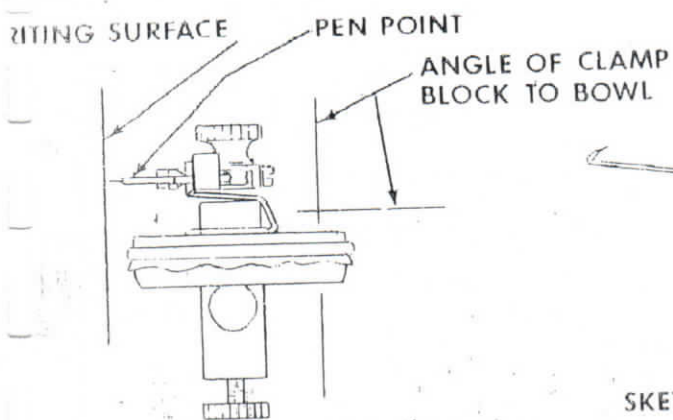

FIG. 3
Mount the tambour to the kymograph's support rod (7011-000) using a double right angle clamp (7026-000). Align the bowl of the tambour so it is parallel with the table top (see Fig. 3 & 4). Loosen thumbscrew (4) and adjust the clamp block so it is perpendicular to the top of the bowl or table top (see Fig. 3 & 4). Retighten thumbscrew.
Unscrew the small knurled screw (8) on the swivel so the hole (10) is visible. Insert the stylus or pen stem through the fulcrum (2) and into the swivel's opening (10), making sure the stem does not protrude more than  $1/16''$ . Align the stylus or pen tip so it is perpendicular to the kymograph's writing surface (see Fig. 3). Tighten swivel.